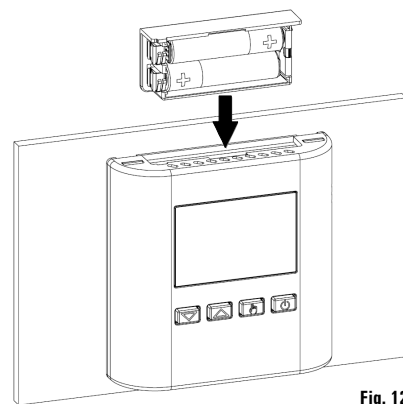

Fig. 12
4. Put back the battery holder drawer, pushing it to the end, Fig. 12. The thermostat turns on automatically.